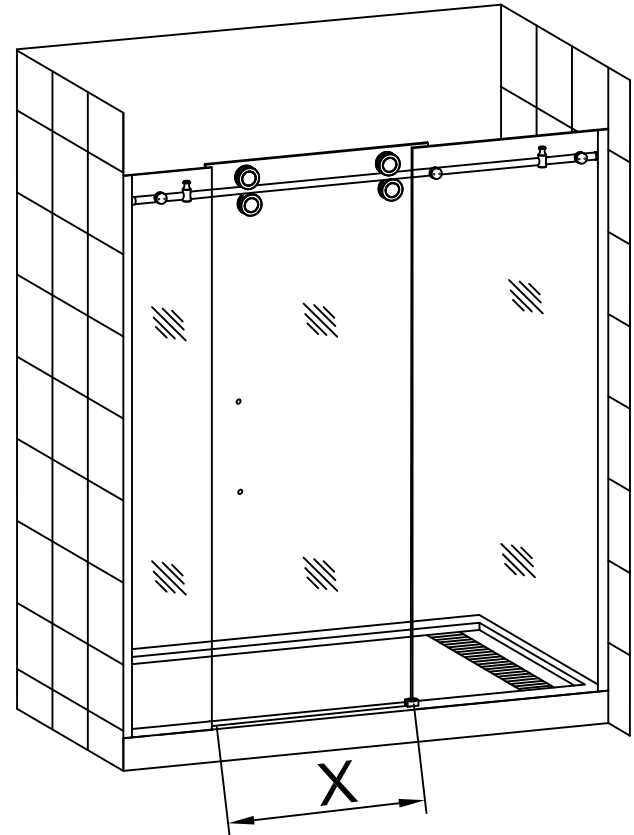

Fig.24
Measure the distance between the Small Fixed glass (19) and the Large Fixed Glass (3). See Fig.24 for details.